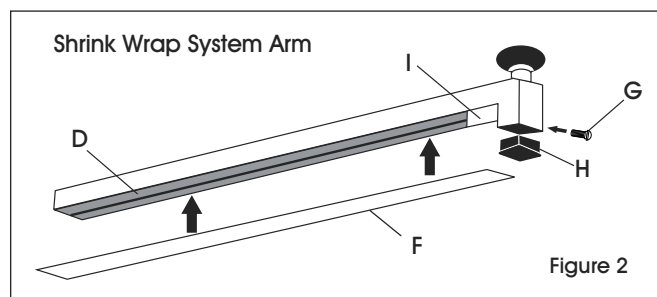

Figure 2
5. Remove worn tape from flexboard (D) on bottom of sealing arm. (See Figure 2)
1. Locate and remove black plastic screw (G) on right side of the sealing arm. Remove black plastic end cap (H). Remove white plastic insulator sleeve (I). (See Figure 2)